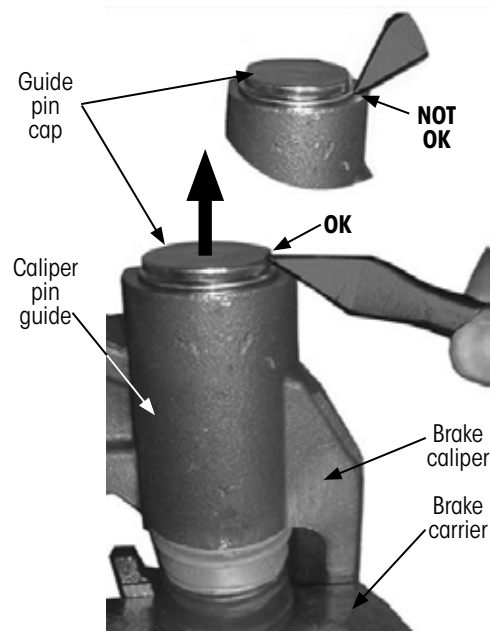

Figure 52: Removing guide pin caps
NOTICE: Damage to the bores may occur if tools are used incorrectly (Figure 52 on page 25). Do not place tool (e.g. chisel or screwdriver) on caliper face. Only position the tool on the guide pin cap.
3. **Remove** the guide pin caps (Figure 52 on page 25).